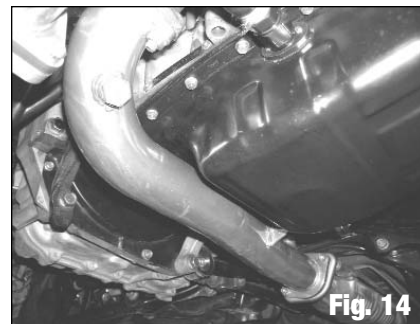

Fig. 14
9. Install the factory O2 sensor into the Exhaust Down-Pipe. Thread the three 10mm x 1.5 studs into the exhaust elbow, hand tight. Making sure the exhaust down-pipe gasket is in place, install the exhaust down-pipe onto the exhaust elbow using the provided 10mm x 1.5 flanged nuts. Using the stock donut gasket (if in good condition), attach the exhaust down-pipe to the stock catalytic converter using the factory bolts. Attach the down pipe to the lower exhaust bracket using the factory bolts **(See Fig. 14)**.